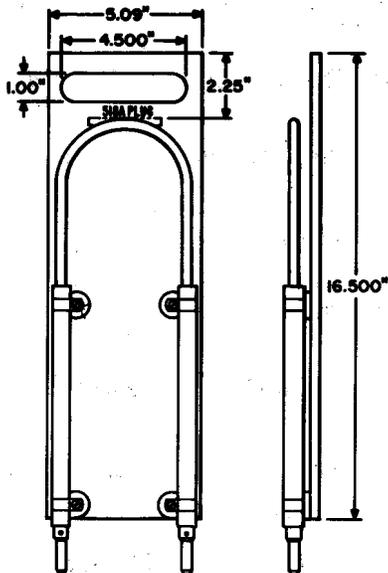

Fig. 4—479A Plug
2.05 479A: The 479A plug (Fig. 4) is a twin-through type, consisting of two modified 436A plugs connected by a 728A cable mounted on a red nylon plate. The 479A plug replaces the 518A plug and is used on the L5 Carrier System.